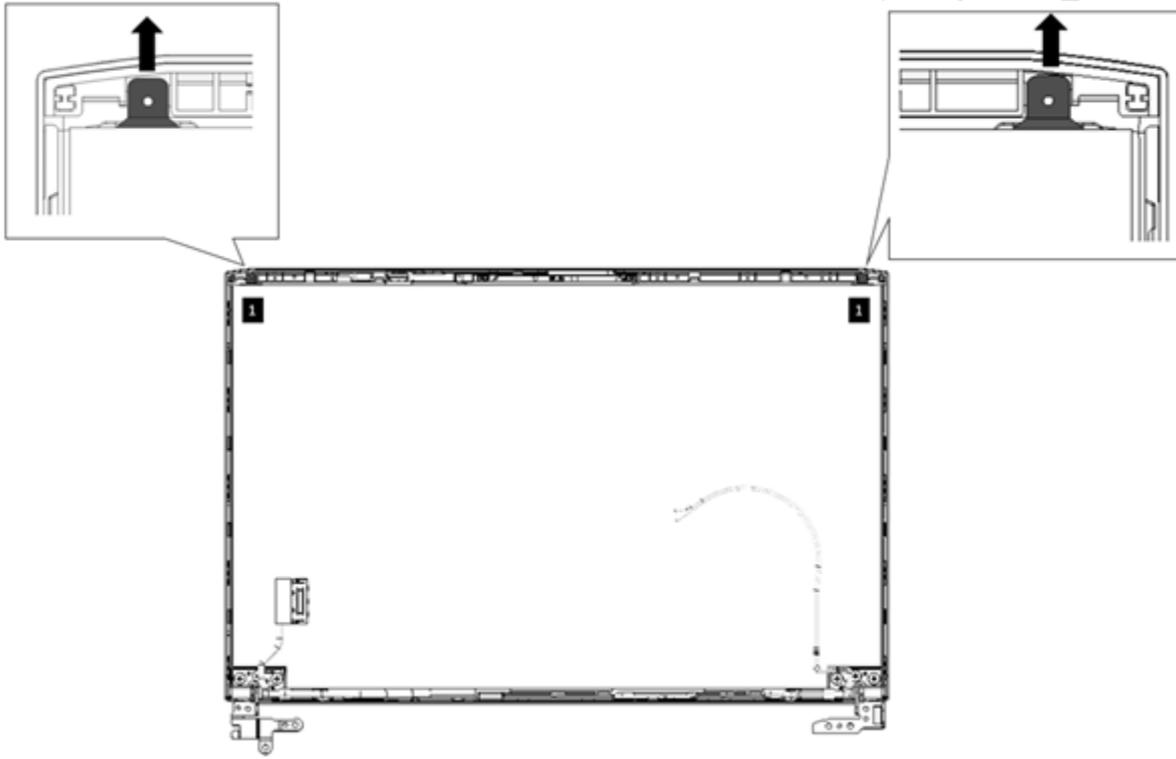
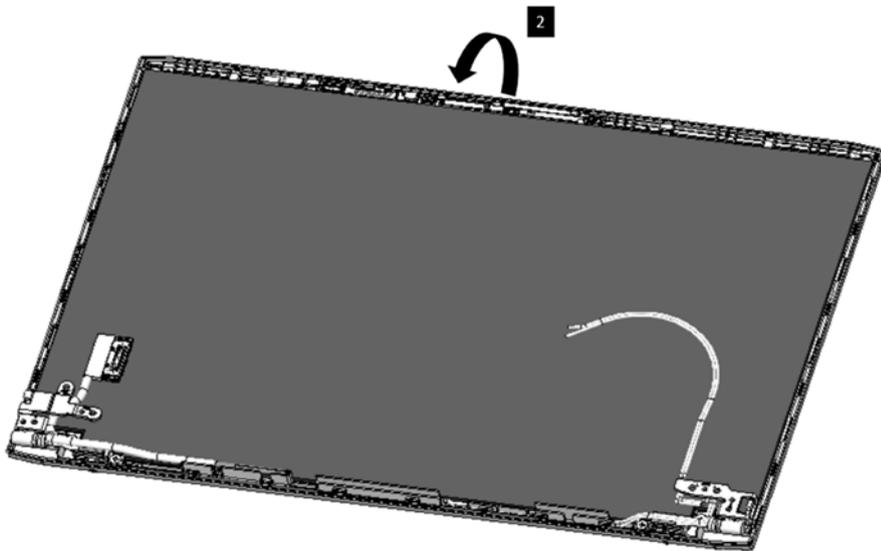

Figure 4-20 Removing the Panel Adhesive
Figure 4-21 Removing the Panel Assembly
Remove the panel Assembly according to the following procedures and Figure 4-20 and Figure 4-21 and Figure 4-22 and Figure 4-23.
1. Pull up the adhesive from LCD cover ,1 as shown in Figure 4-20.
2. Carefully lift up and rotate the panel from the LCD assembly as the arrow ,2 indicates in Figure 4-21.